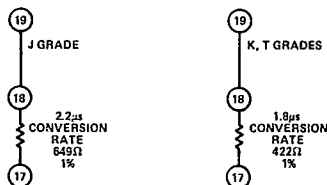

Figure 7. Clock Rate Control Connection
**NOTES**1 Positive pulse 200ns wide (min) leading edge (0 to 1) resets outputs. Trailing edge initiates conversion.2 With 50Ω, 1% fixed resistor in place of gain adjust potentiometer.3 Adjustable to zero.4 With 50Ω, 1% resistor between Ref Out and Bipolar Offset (Pins 24 & 26).5 Conversion time is defined as the time between the falling edge of convert start and the falling edge of the EOC.6 Each grade is specified at the conversion speed shown. See Figure 7 for appropriate connections.7 Externally adjustable by a resistor or capacitor.8 For "Z" models order AD579ZJN, AD579ZKN or AD579ZTD.